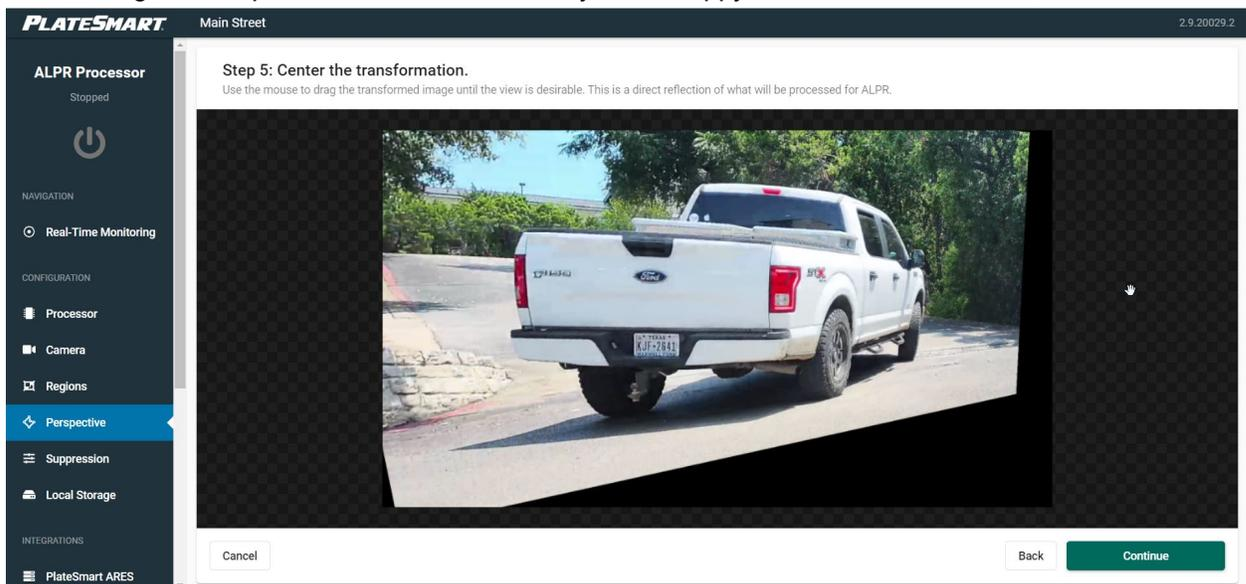

Figure 6
- Review the transformation to ensure it is correct (Figure 6). If it is not, use the “Back” button to go back through the steps of the transformation. If you are happy with the transformation, click “Save.”